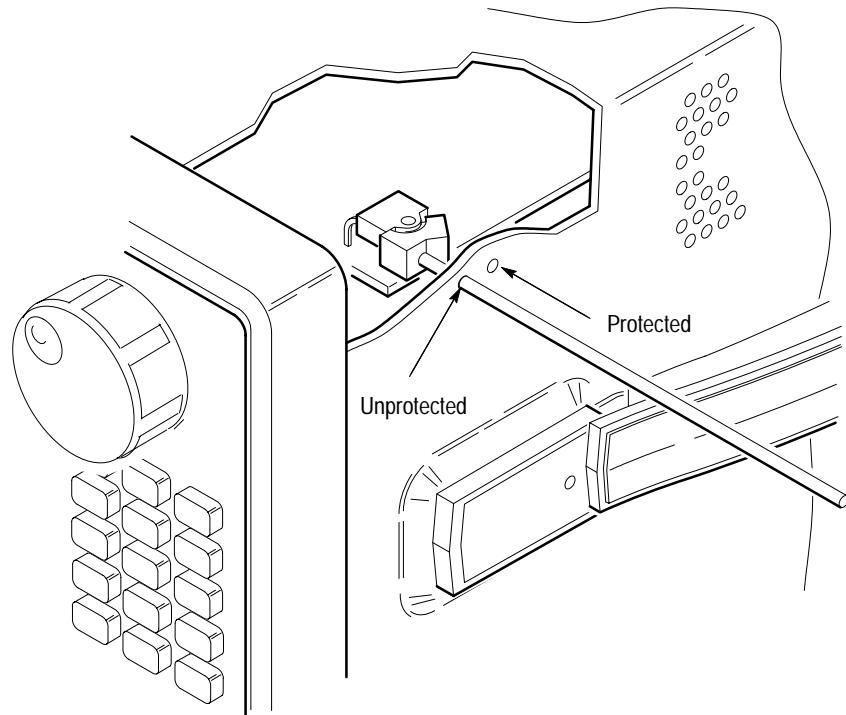

Figure 5-1: Accessing the Protection Switch
- a. Locate the two small access holes on the right side of the logic scope cabinet near the front. (See Figure 5-1.)